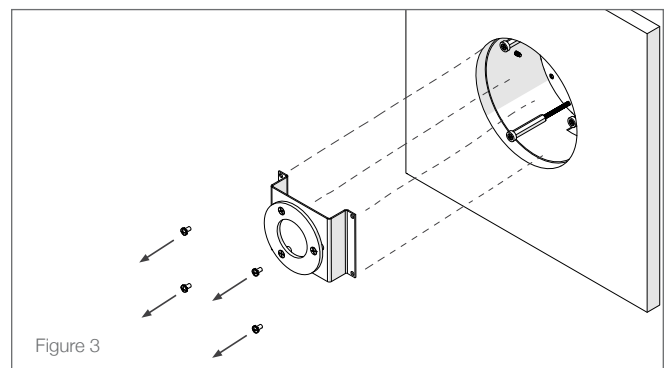

Figure 3
1. Using a Phillips #2 screwdriver, remove the 4 screws holding the mounting bracket plate inside the back box. A magnetic tip screwdriver is recommended (see Figure 3).